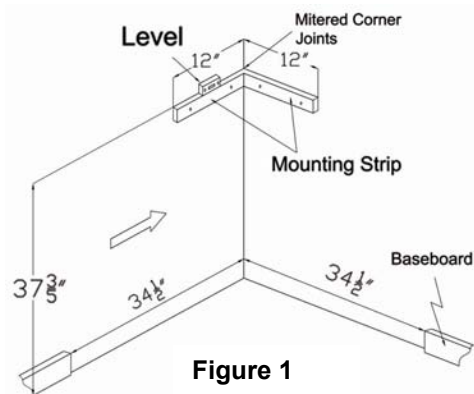

Figure 1
2. Surround must be attached to either a wall stud or wall anchor. Use a tape measure to determine correct height from floor to location of mounting strips. (See Figure 1). Make sure point of the mitered edge of mounting strip touches the corner. Use a level to ensure mounting strips are evenly balanced.